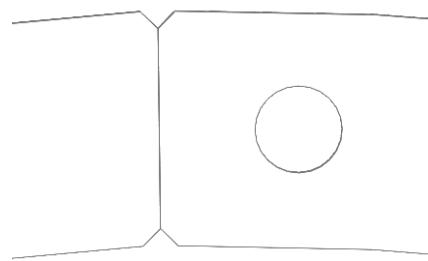

Fig.2
3. Mount surface mount bracket to structure (Fig.2) Ensure the surface can support the weight of the fixture. Secure the brackets to the wall in the desired locations.